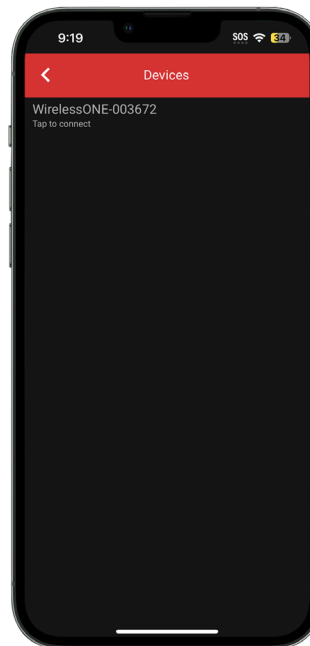
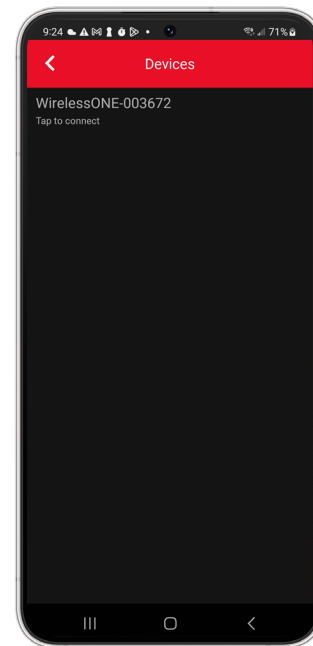

fig. C.1
fig. C.2
3. The app will automatically go to the device's screen if no connected manifold is detected. Click on the device you want to pair. The manifold will have WirelessOne in the title (Fig. C.1 & Fig. C.2).